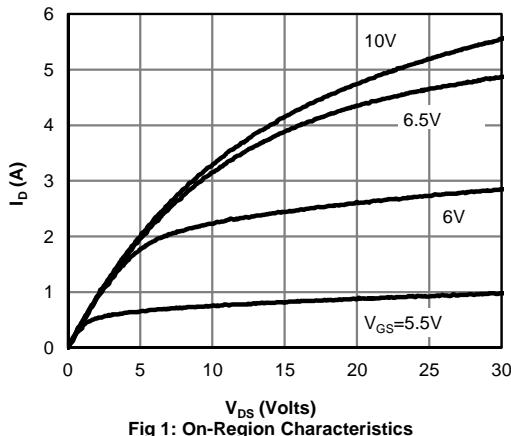

Fig 1: On-Region Characteristics
- E. The static characteristics in Figures 1 to 6 are obtained using  $<300\ \mu\text{s}$  pulses, duty cycle 0.5% max.